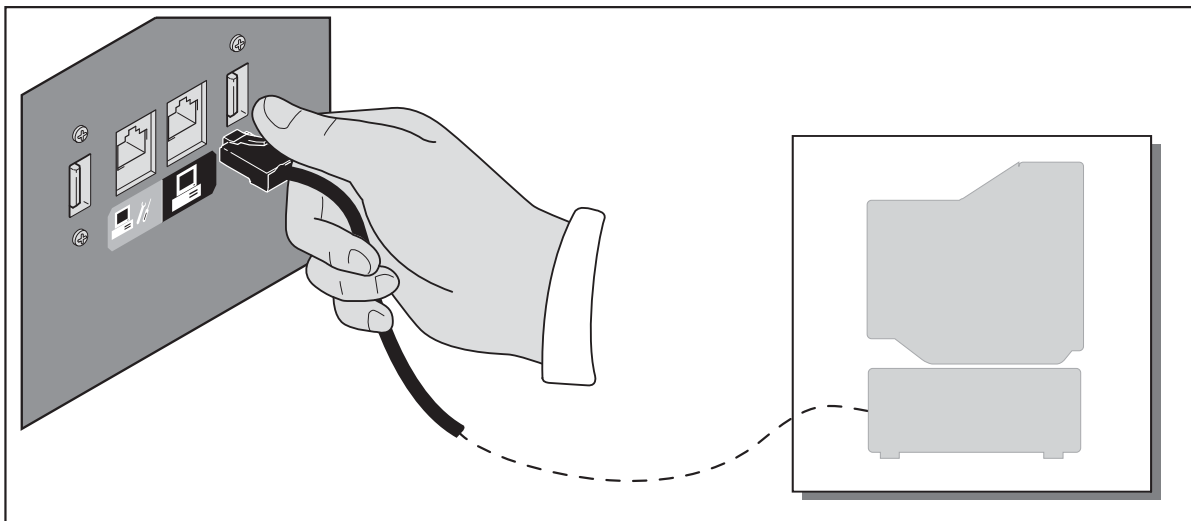

Figure 5-4
- Insert the communication cable connector (RJ11 male) into the connector (RJ11 female) on the rear door, marked with the symbol  (Figure 5-4).